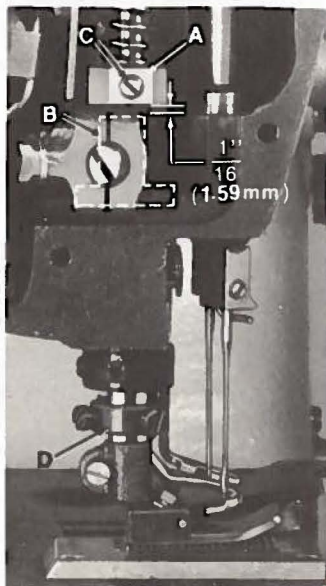

FIGURE 11
There should be approximately 1/16 inch (1.59 mm) clearance between lower surface of the presser bar connection guide (A, Fig. 11) and the top of the spreader holder carrier (B), when the presser foot is resting on the throat plate, with the feed dog down below the throat plate.
If adjustment is needed, turn handwheel in operating direction until the needle bar is in the low position and loosen screw (C, Fig. 11). Then, while holding presser foot down on the throat plate surface, pry up presser bar connection and guide with a screwdriver to obtain the 1/16 inch (1.59 mm) setting and tighten screw. Check setting by turning handwheel so that the needle bar is at its highest position and see if presser foot can be removed.